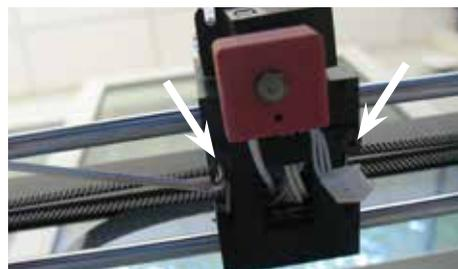

Fig. 75
- ⇒ Loosen the left screw of the clamping plate approx. 1 turn and remove the right screw (Fig. 75).